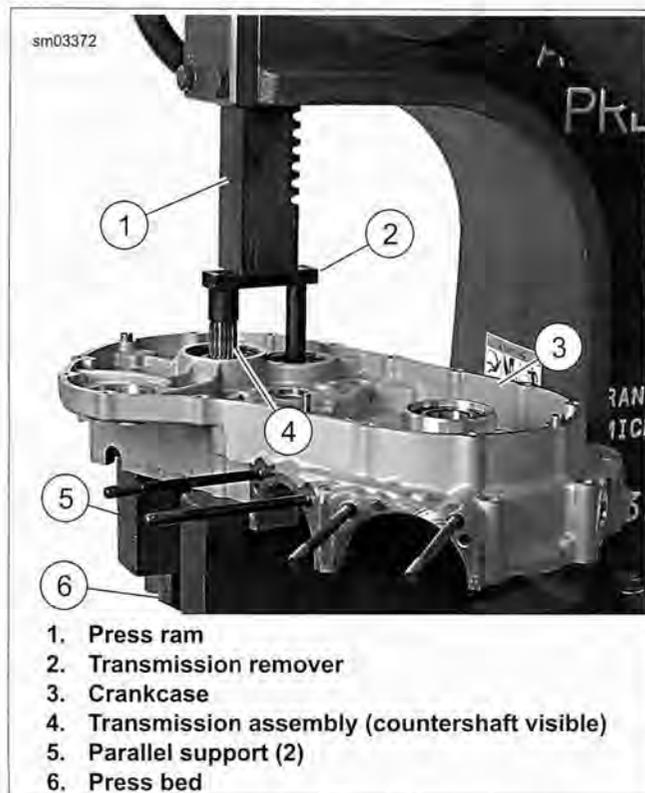

Figure 5-58. Pressing Transmission From Left Crankcase
3. See Figure 5-58. Remove left crankcase half and transmission assembly (4) from engine stand.
- a. Place crankcase half (3) and transmission assembly (4) on arbor press (1) and support transmission assembly on parallel supports (5).
- b. Press transmission assembly using TRANSMISSION REMOVER (Part No. B-43895-1) (2) to remove transmission assembly from crankcase half.